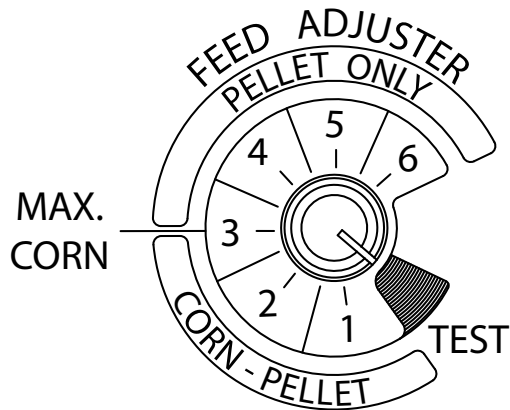

Fig. 21
4. If starting after an empty hopper, turn the feed adjuster to "TEST" until the fuel is visible in the auger tube opening. Fig 21, This also allows you to check the motors for operation.